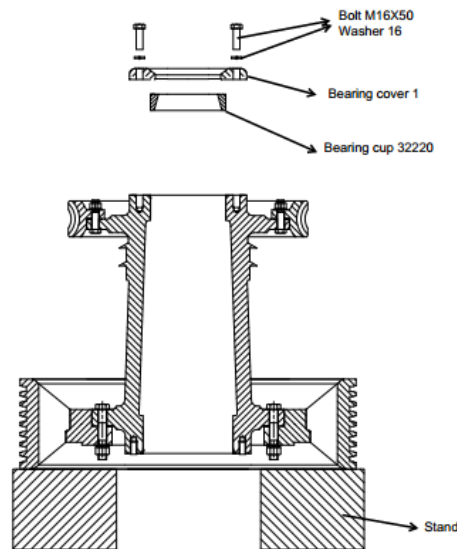

Figure 43 Output Shaft Bearing replacement
14. Turn the sheave/carrier/ring gear assembly over, place two stands under the sheave surface. See Figure 43.
15. Install the bearing cup 32220 into the bearing bore of the carrier, install the Bearing cover1 then use the six Bolts (M16x50) and Washers (16) to secure it. See Figure 43.